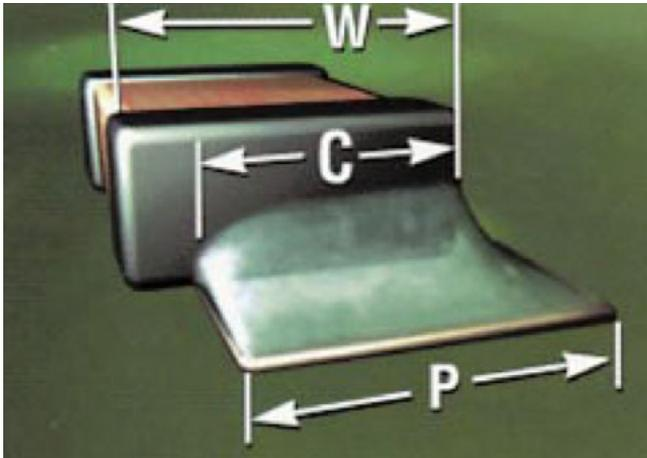

Figure 12: Solder joint length[9].
Taking into consideration the IPC-A-610 standard regarding the specification of the solder joint along the component electrode, as seen in Figure 12, it was implemented a new classifier (20).